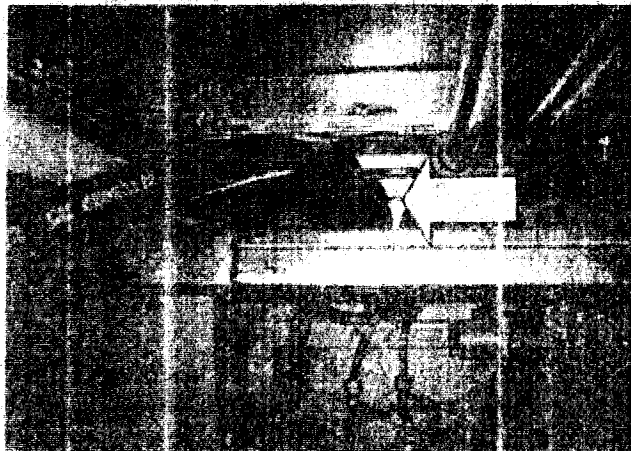

Figure 12: Spare line duct at the rear of the coach with new central tunnel line installed
- 4) Finally, run the new hose to the engine compartment via the spare line duct above the drive and tag axes (see Figure 12).